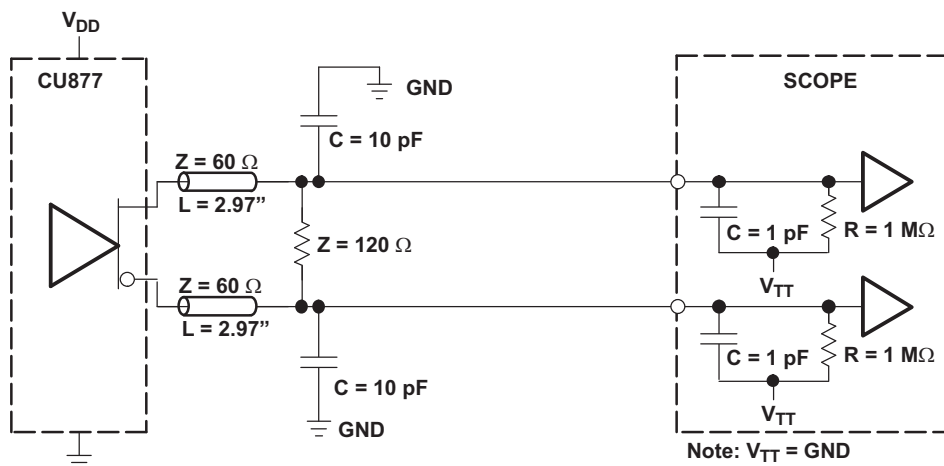
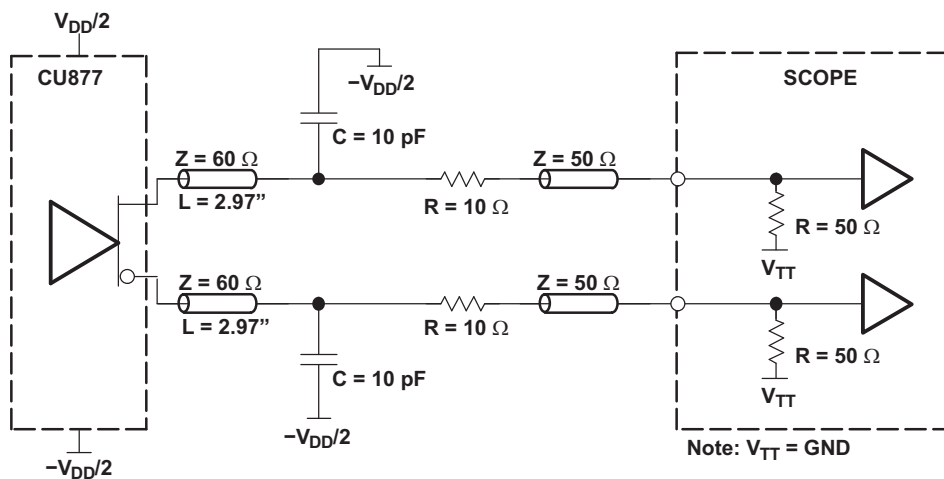

Figure 2. Output Load Test Circuit 1
Figure 3. Output Load Test Circuit 2
- (1) There are two different terminations that are used with the following tests. The load/board in Figure 2 is used to measure the input and output differential-pair cross voltage only. The load/board in Figure 3 is used to measure all other tests. For consistency, equal length cables must be used.
- (2) This parameter is specified by design and characterization.
- (3) Phase static offset time does not include jitter.
- (4) Period jitter, half-period jitter specifications are separate specifications that must be met independently of each other.
- (5) The output slew rate is determined from the IBIS model with a 120-Ω load only.
- (6) To eliminate the impact of input slew rates on static phase offset, the input skew rates of reference clock input CK and \overline{CK} and feedback clock inputs FBIN and \overline{FBIN} are recommended to be nearly equal. The 2.5-V/ns skew rates are shown as a recommended target. Compliance with these typical values is not mandatory if it can adequately shown that alternative characteristics meet the requirements of the registered DDR2 DIMM application.
- (7) Output differential-pair cross voltage specified at the DRAM clock input or the test load.
- (8) V_{OX} of CDCU877A is on average 30 mV lower than that of CDCU877 for the same application.